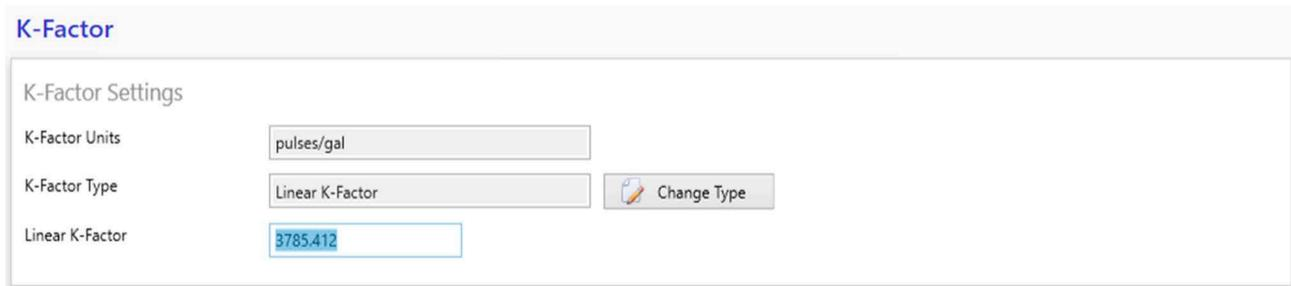

Figure 7.5—Linear K-Factor
- Linear K-Factor. A single value which represents the volume that passes through the turbine meter for each pulse (Figure 7.5).